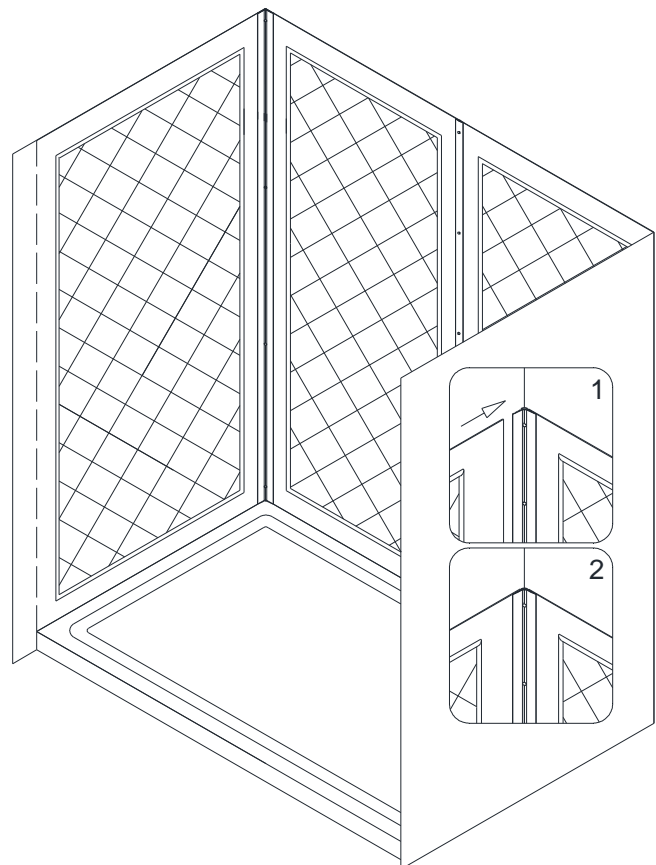

Fig. 28
See Fig. 28 for details.
29. Mark the location for the **Shelf brackets (04)** according to the measurements in Fig. 28 and Fig. 29.1.